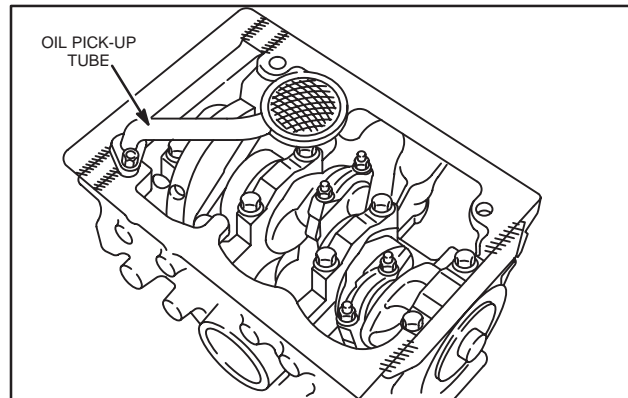

Fig. 2 – Removing Oil Pan
2. Remove oil pan screws and nuts, Fig. 2.